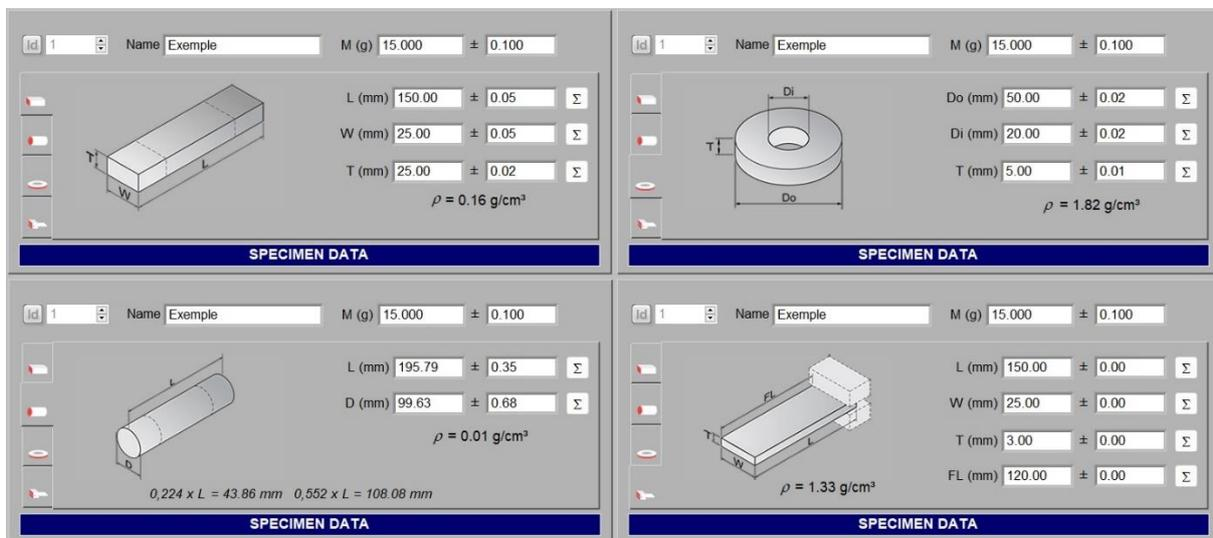

Figure 26 - Options for geometry and specimen data.
Step 01 - In the field "Specimen data": **SAMPLE DATA** choose the specimen's geometry: rectangular bar, cylinder, ring/disc or cantilever beam, as shown on Fig. 26 below.
Meaning of the parameters shown in Fig. 26:
After insert all dimensions, the software will automatically calculate the apparent density ( $\rho$ ) and show the localization of the nodal lines for bars and cylinders (where the specimen should be placed over). Figure 26 shows where this information. Always check if the calculated apparent density is consistent with the material under test.